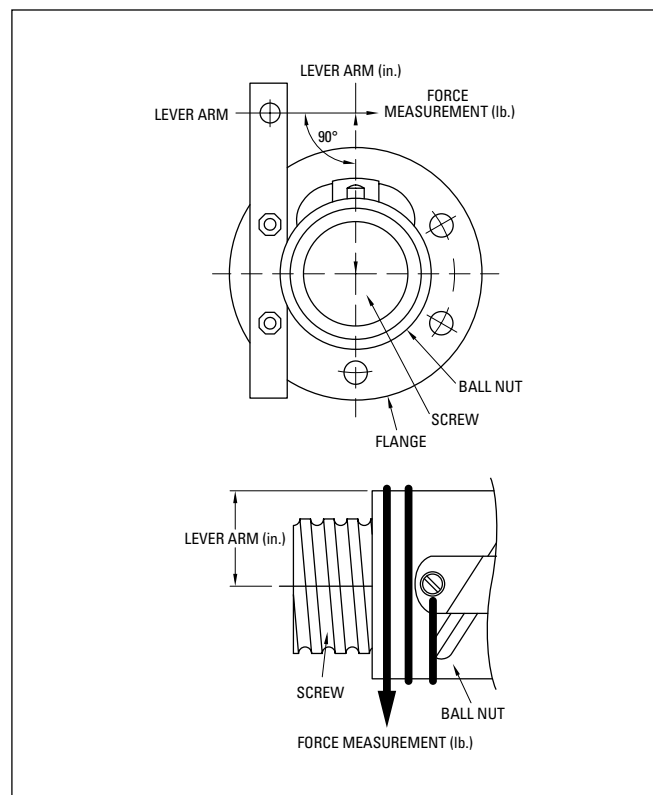

Figure 18
**Inspection and Existing Preload Check:** Whenever possible, the complete ball screw assembly should be removed from the machine prior to a thorough inspection. Preliminary screw inspection can be made while the unit is still in the machine. Preload can be determined by measuring movement of the nut in respect to the screw shaft. Clamp an indicator to the screw shaft with its probe resting on the face of the nut. Apply a load to the machine carriage in both directions. Be sure that the screw cannot rotate or move axially. Any measurable backlash between the ball nut and screw is an indication that preload does not exist. (See Figure 18.)
Torque can be measured by means of a spring scale mounted to any projection on the ball nut or by means of a lever or rod secured to the ball nut. In taking this measurement, be sure the exact lever arm distance is measured. (See Figure 18.) This measurement (inch) multiplied by the scale reading (lb.) equals  $T_p$  (torque lb-in.). Existing preload can now be determined using the above formula.
Preload adjustment of a Precision ball screw (Figure 18) requires no disassembly. Possible removal of the ball nut from the machine housing may be necessary to expose the adjusting nut.
**Preload Adjustment:** The adjusting nut unit in Figure 18 can be adjusted to the desired preload with the use of additional shims. To make further adjustment, loosen the set screw lock located on the periphery of the lock nut. Use a spanner wrench to rotate the adjusting nut to the desired setting. Recheck the preload.
For all other standard units in Figure 18, a shim increase of .001 inch will, as a general rule, increase preload by 500 to 1,000 lb. This varies depending upon screw size; therefore, some judgement and trial and error may be necessary before the desired preload is achieved.